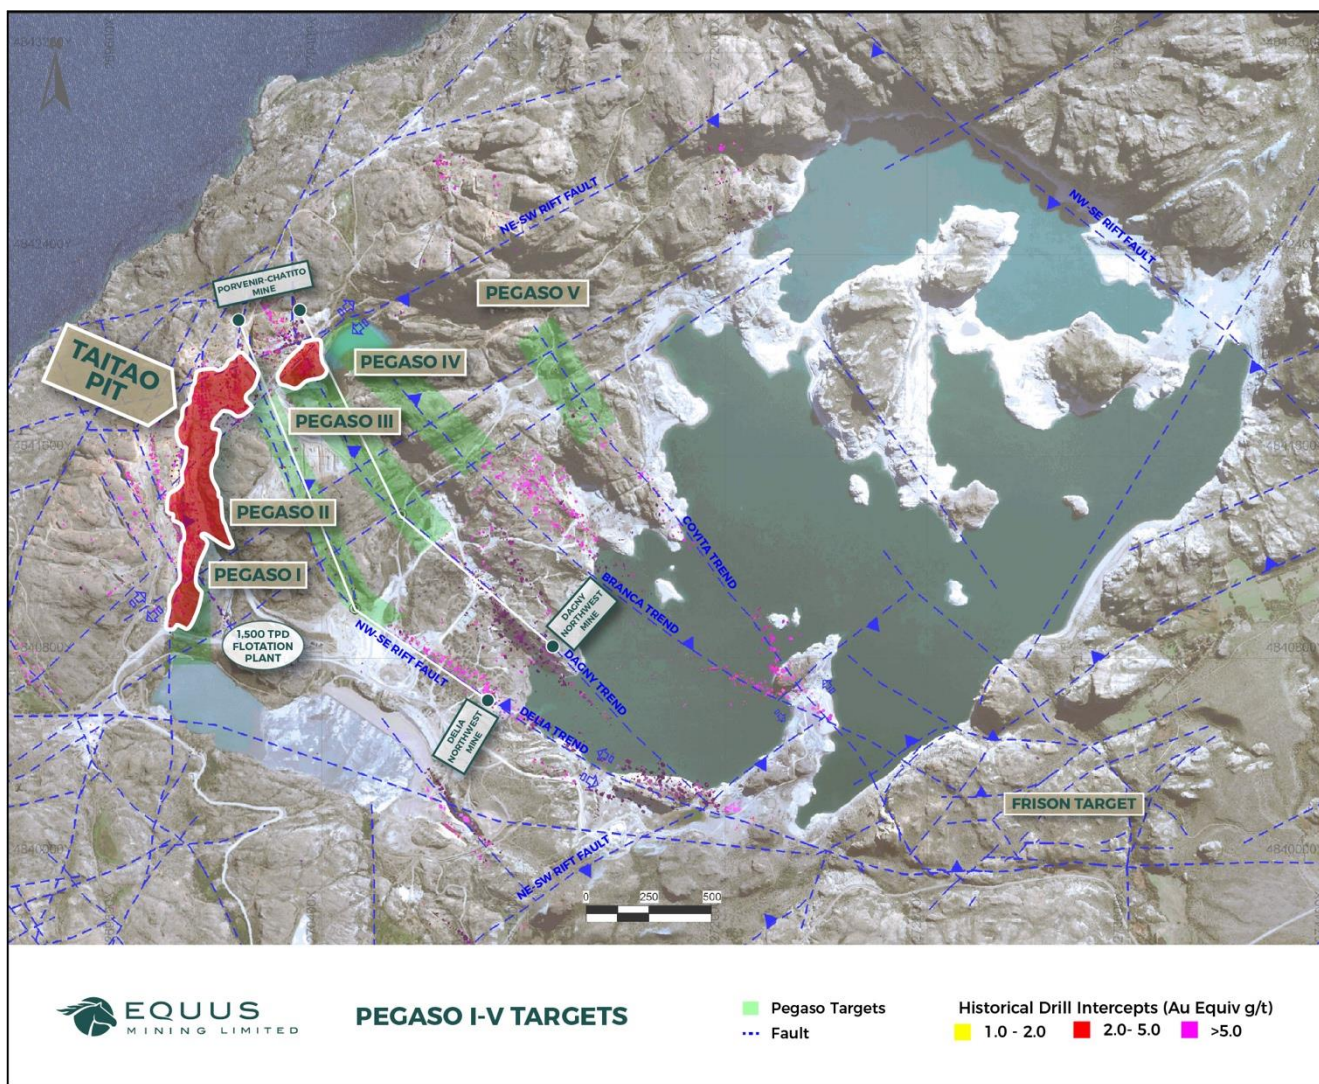

Figure 1 –Pegaso I-V targets within 2km of the Cerro Bayo Gold-Silver Plant
- ▶ Brownfields targeting has defined the near-mine Pegaso I-V Targets, five high priority drill targets with a cumulative strike length of more than 3.5km, located within 2km from Cerro Bayo's 1,500tpd flotation plant infrastructure and along trend from historical high-grade gold and silver producing mines (Figure 1).